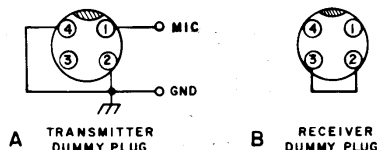

Figure 7 – Dummy Microphone Plugs
Electronic switching is used in the units making them inoperable when the microphone is disconnected from the front of the unit. In order to activate a unit only for receiver service, a dummy plug must be used in place of the microphone plug. (Except Model 14T305 which provides remote selection of CHAN, SQ & VOL from controls on the microphone. The microphone must be used to activate the transceiver for 14T305 service). Use of this plug is **HIGHLY RECOMMENDED TO ACTIVATE THE RECEIVER WHEN PERFORMING SERVICE. IF THE MICROPHONE IS USED ACCIDENTAL DEPRESSION OF THE TRANSMIT BUTTON COULD RESULT IN DAMAGE TO VALUABLE TEST EQUIPMENT.** See Figure 7 for view and information on dummy plug.
6. Dummy plug to activate transmitter without using microphone, see Figure 7.
7. Dummy mike plug for receiver servicing, with jumper between pins 2 and 3 as seen in Figure 7.